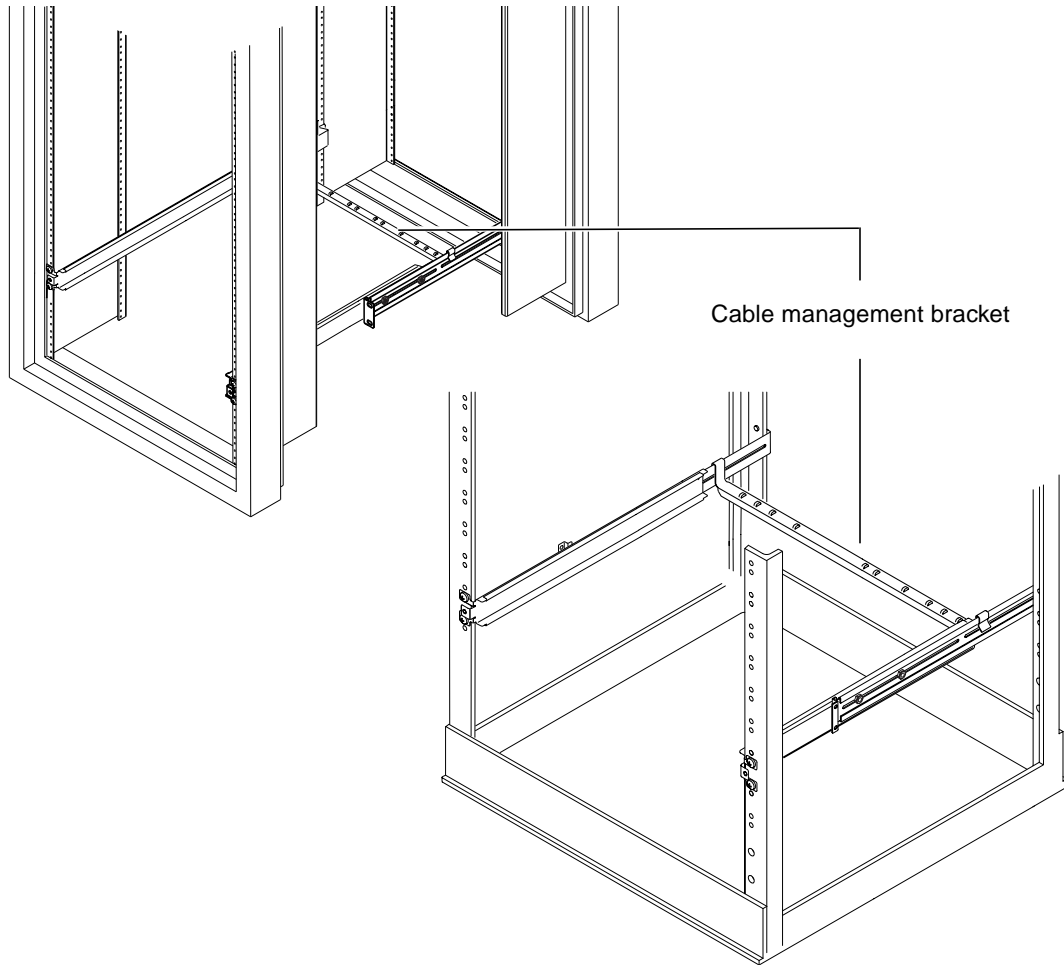

FIGURE 2-9 Fitting the Cable Management Bracket to a Sun StorEdge or a Standard 19-Inch Rack
- **Hook the bracket over the slide mounts at the rear of the server (see FIGURE 2-9).**